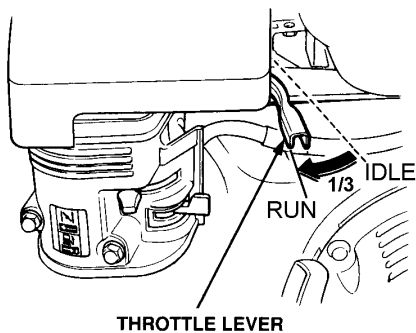

Figure 7. Throttle Lever (1/3 Start Position)
3. Move the throttle lever (Figure 7) away from the slow position, about 1/3 of the way toward the fast position.